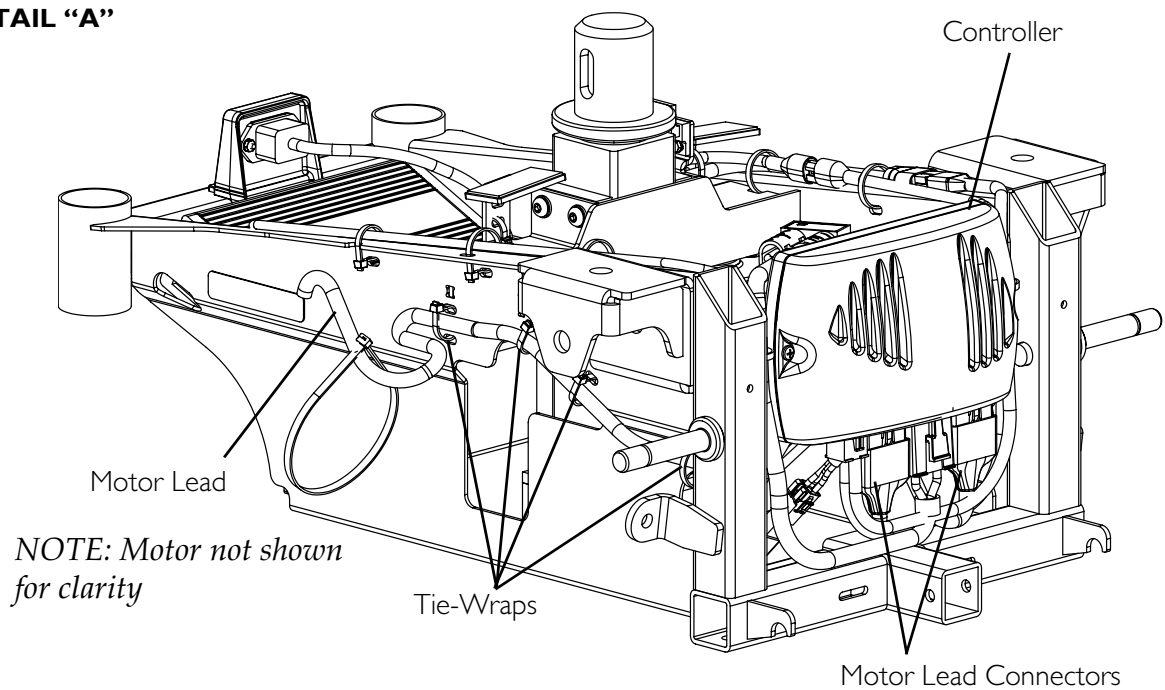

FIGURE 12.1 Removing/Installing the Motor
NOTE: For this procedure, refer to FIGURE 12.1 on page 113.
9. Using a 5 mm ball head 10-inch T-handle allen wrench, remove the three long mounting screws and three short mounting screws securing the motor to the walking beam (FIGURE 12.1).